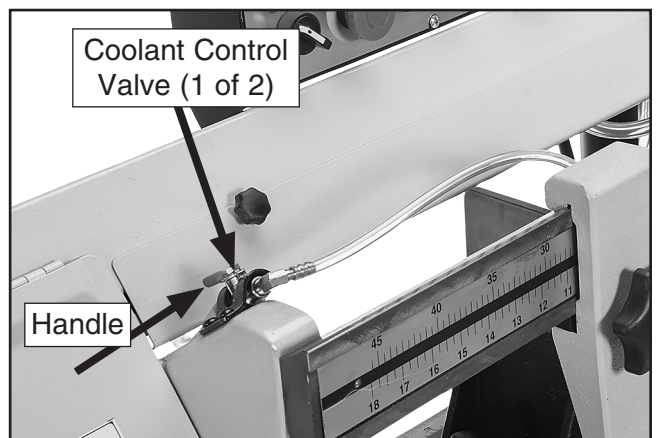

Figure 14. Coolant control valve open.
- Open both coolant valves by turning handles so they are parallel with valve (see **Figure 14**).